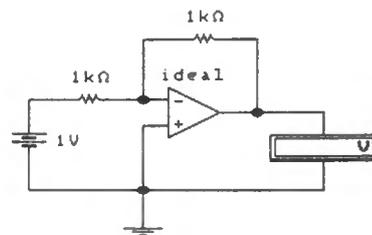

Fig. 5.8 Inverting amplifier circuit (Assignment 5.1).
- 1. Connect the inverting amplifier circuit shown in Fig. 5.8. Check that the values of input and feedback resistor are both $1k\Omega$ and that the input voltage (from the battery) is 1V.
- 8. Finally, return to the circuit of Fig. 5.8 with $V_{IN} = 1V$. Choose a value for R_F that will produce an output voltage of 10V (i.e., a voltage gain of exactly 10). Check that the circuit works and note down the value of R_F used.